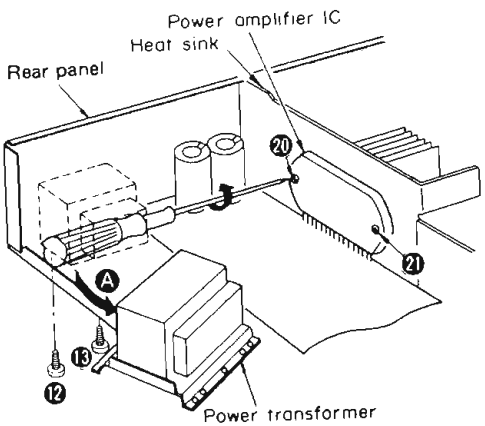

Fig. 4
2. Remove the 2 setscrews (Fig. 4 : ⑳, ㉑) to detach the power transformer from rear panel in the direction of arrow A.
4. Remove the 2 setscrews (Fig. 4 : ㉒, ㉓) used to secure the power amplifier IC on the heat sink, and then pull the power amplifier IC.